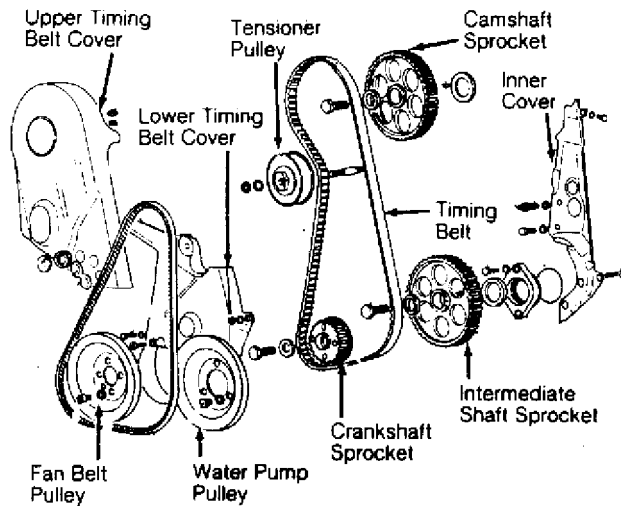

Fig. 6: Removing Timing Belt
Match mark all components to ensure reassembly in original position. See Fig. 6. DO NOT turn crankshaft with belt removed. Valve damage may result. No further removal information is available from manufacturer.
1) Remove upper timing belt cover. See Fig. 6. Remove valve cover and camshaft cover. Place crankshaft at TDC with No. 1 cylinder on compression stroke. Remove timing belt from camshaft sprocket. Remove camshaft sprocket. Remove Woodruff key. Check camshaft end play with cam followers removed and bearing caps No. 1 and 5 installed. See CAMSHAFT table under ENGINE SPECIFICATIONS at end of article.